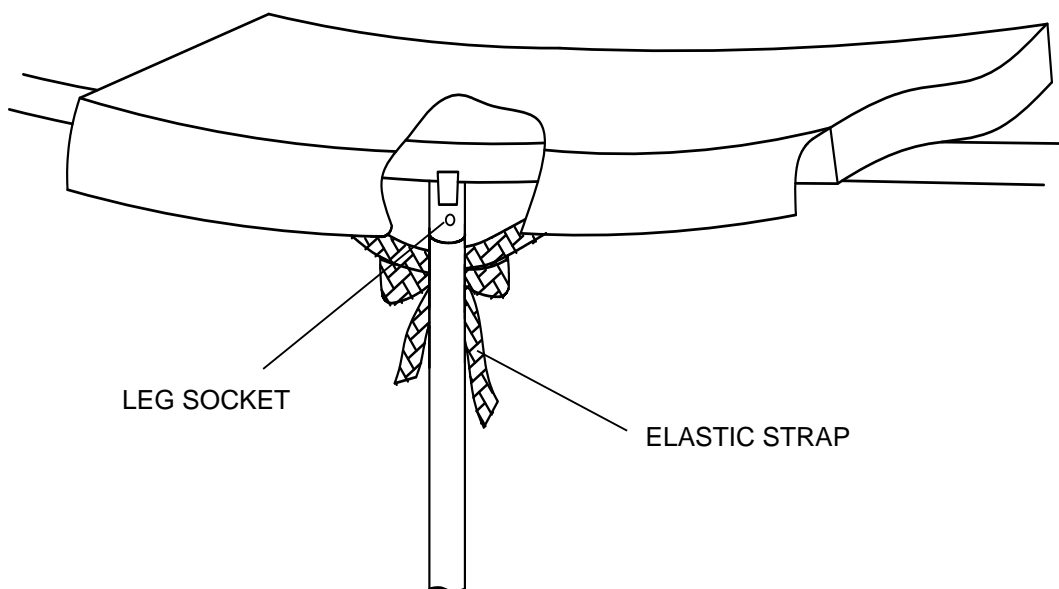

FIGURE 12
- A. Lay the Frame Pad (# 2) over the trampoline so that the springs and steel frame are fully covered. Please ensure that the Frame Pad covers all metal parts. Line up the elastic straps with the leg sockets. Wrap the elastic straps behind the leg sockets and tie together as shown in FIGURE 12.